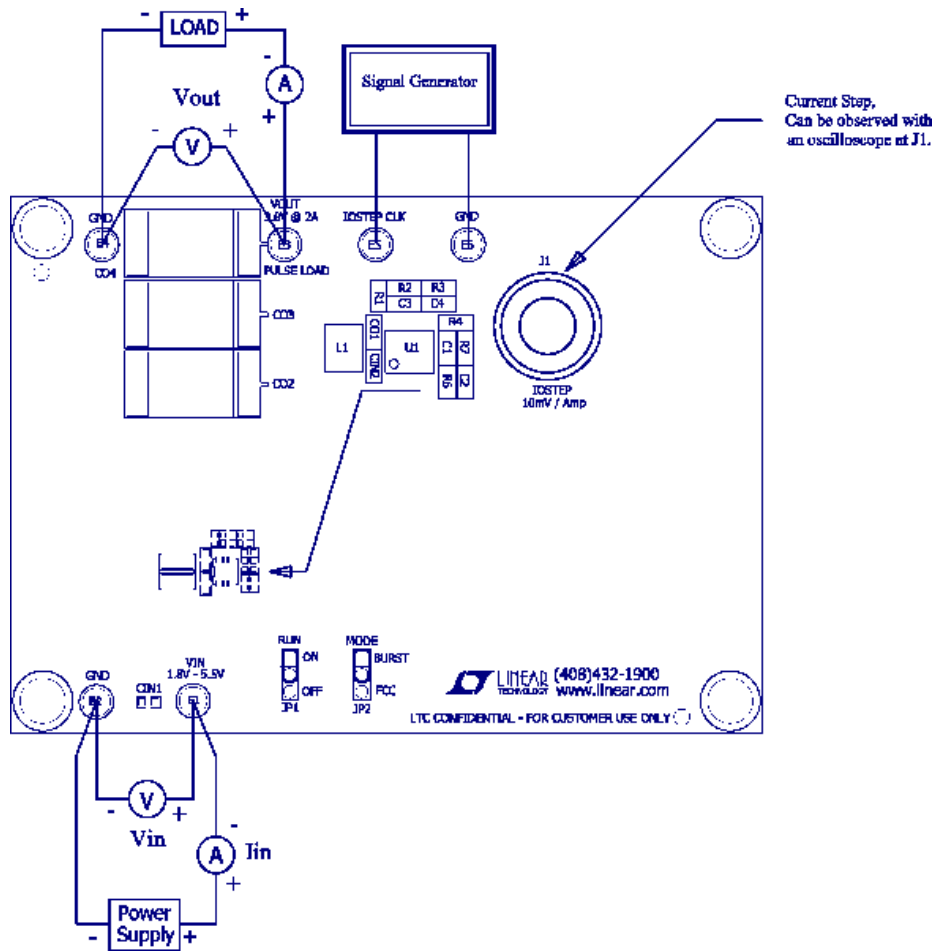
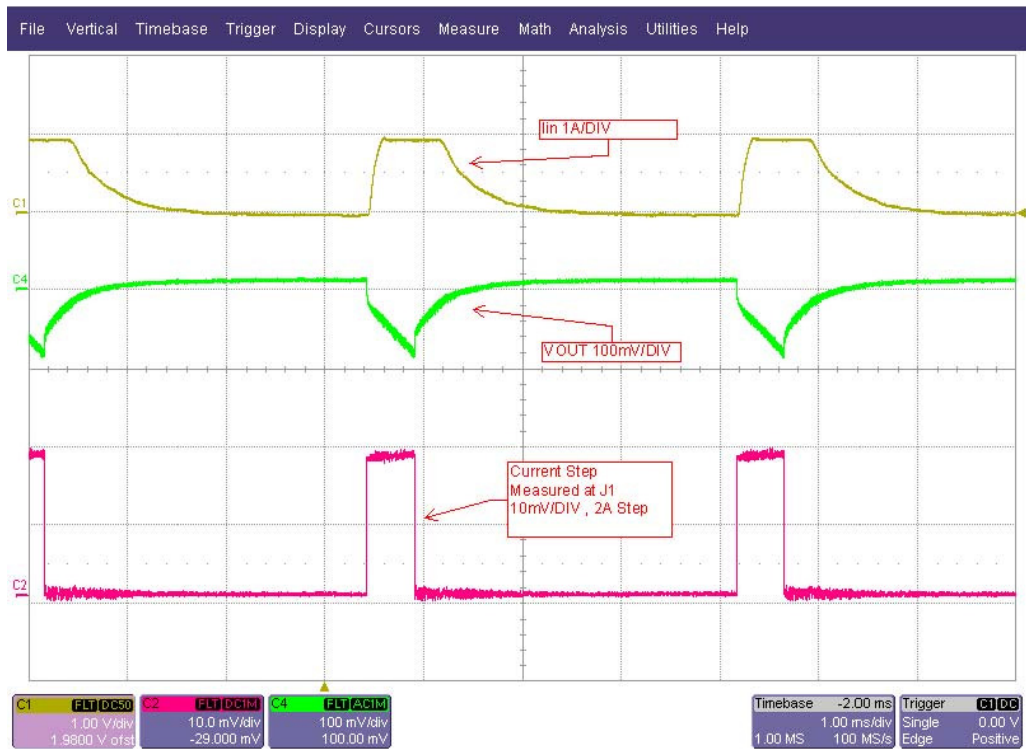
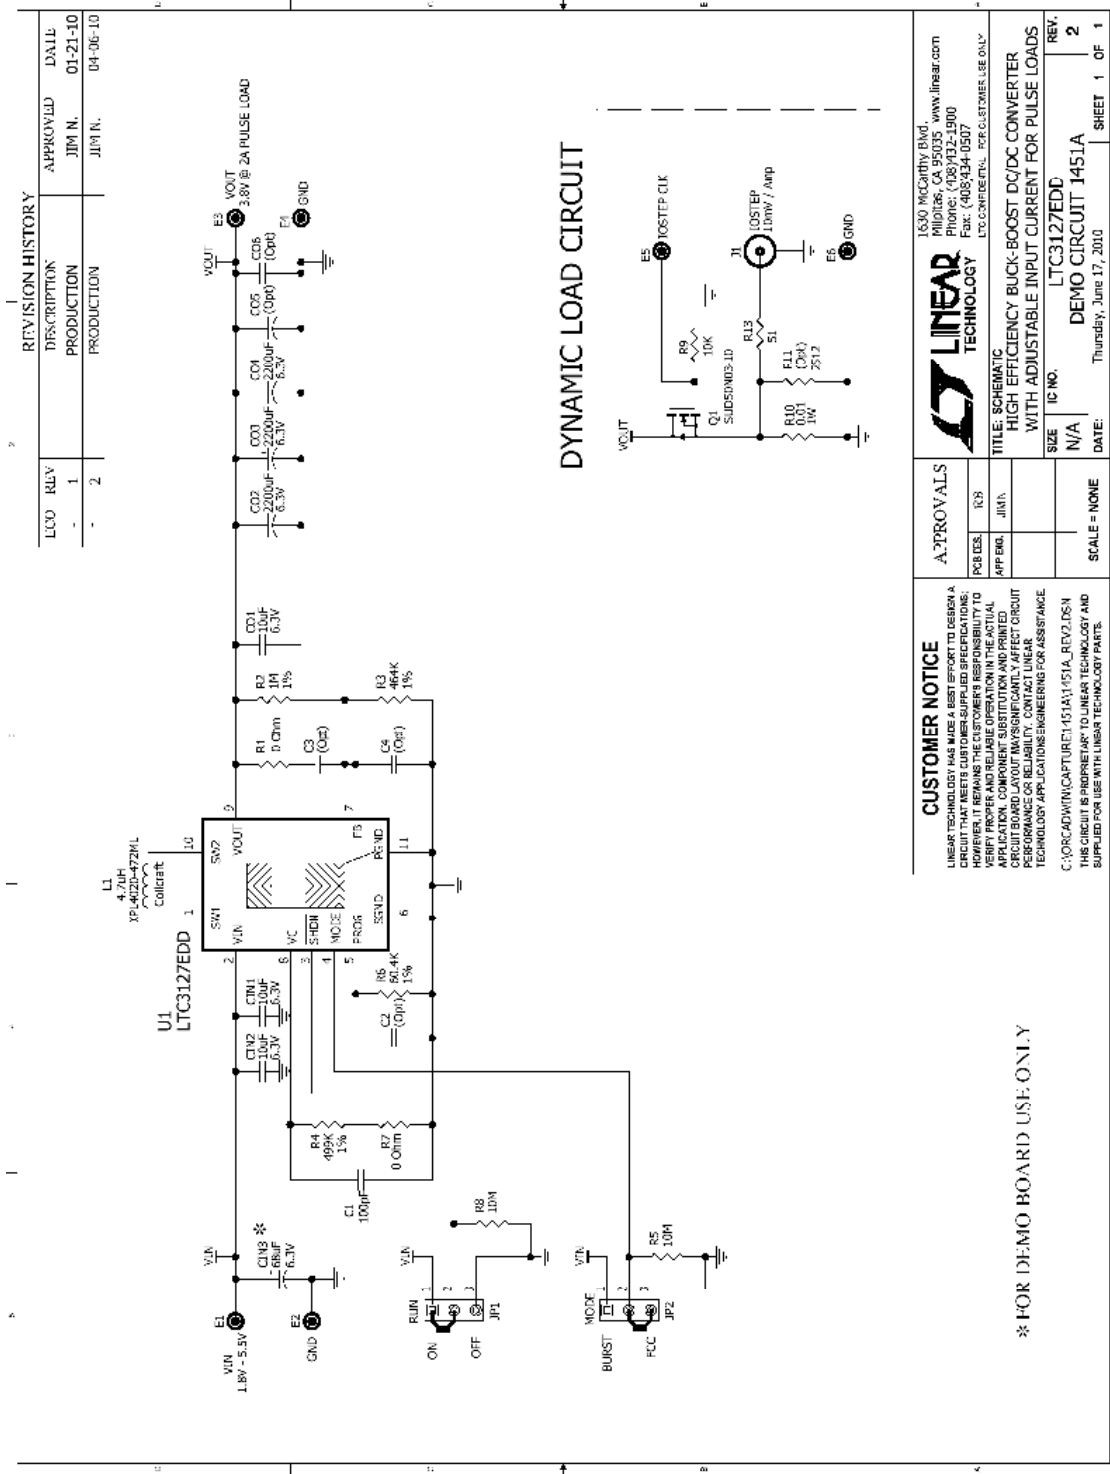

Figure 1. Connection Diagram
Figure 3. Step Load Response
Figure 4. Circuit Schematic
Using short twisted pair leads for any power connections and with all loads and power supplies off, refer to Figure 1 for the proper measurement and equipment setup. The Power Supply (PS) should not be connected to the circuit until told to do so in the procedure below.
Demonstration circuit 1451A can be setup for simple evaluation of pulse loads – please see optional circuit (Dynamic Load Circuit) in Figure 1 and Figure 4 for proper setup. The circuit is capable of pulsed loads of up to 2A with duty cycles up to 15%. Starting from step 7 in the quick start procedure above, follow the procedure below:
8. Connect Signal Generator with an adjustable output amplitude between IOSTEP CLK and GND as shown in Figure 1. Adjust the signal generator output to produce a pulse of 2A as measured at J1 (IOSTEP, 10mV/DIV) with an ON time of 576  $\mu$ S and a period of 4.6 mS shown in Figure 3. Adjust the period and duty cycle of this signal to match that of the required load prior to attaching the pulse generator. The amplitude can vary but is approximately 2Vpp for a 2A step. Oscilloscope termination should be 1M $\Omega$ .
An example result showing Vout and a pulse load Iout is given in Figure 3.